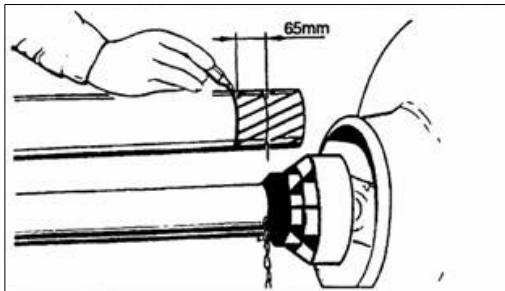

Figure 10 : measurement for cutting
- Put a mark on each side 65 mm. away from the protecting sections as shown in Figure 10. This 65 mm. represents the distance needed for the transmission taken from the tractor's shaft axle.